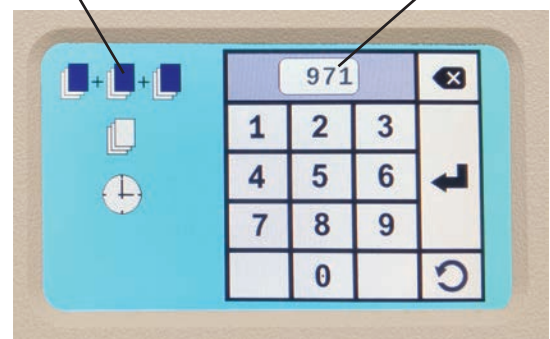

Fig. 23c
3. Press the number of sets “” icon (it will turn blue when selected (fig. 23c)). Use the keypad to enter “9713” (fig. 23c).